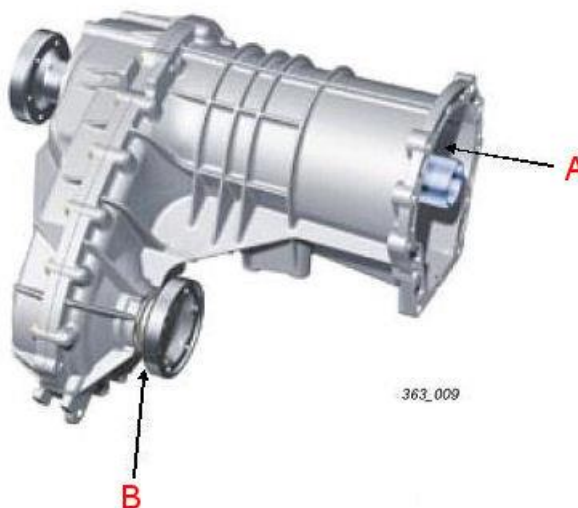

Figure 1. The input shaft seal (A), and the front driveshaft output flange seal (B).
- Oil leak between automatic transmission and transfer case (Figure 1, A).
- Oil leak at front driveshaft output flange on transfer case (Figure 1, B).
1. Replace the transfer case input shaft seal (Figure 1, A). Refer to Elsa for seal installation instructions.
2. Replace the complete transfer case assembly if the front driveshaft output flange seal is leaking (Figure 1, B). Refer to Elsa for transfer case removal and installation instructions.